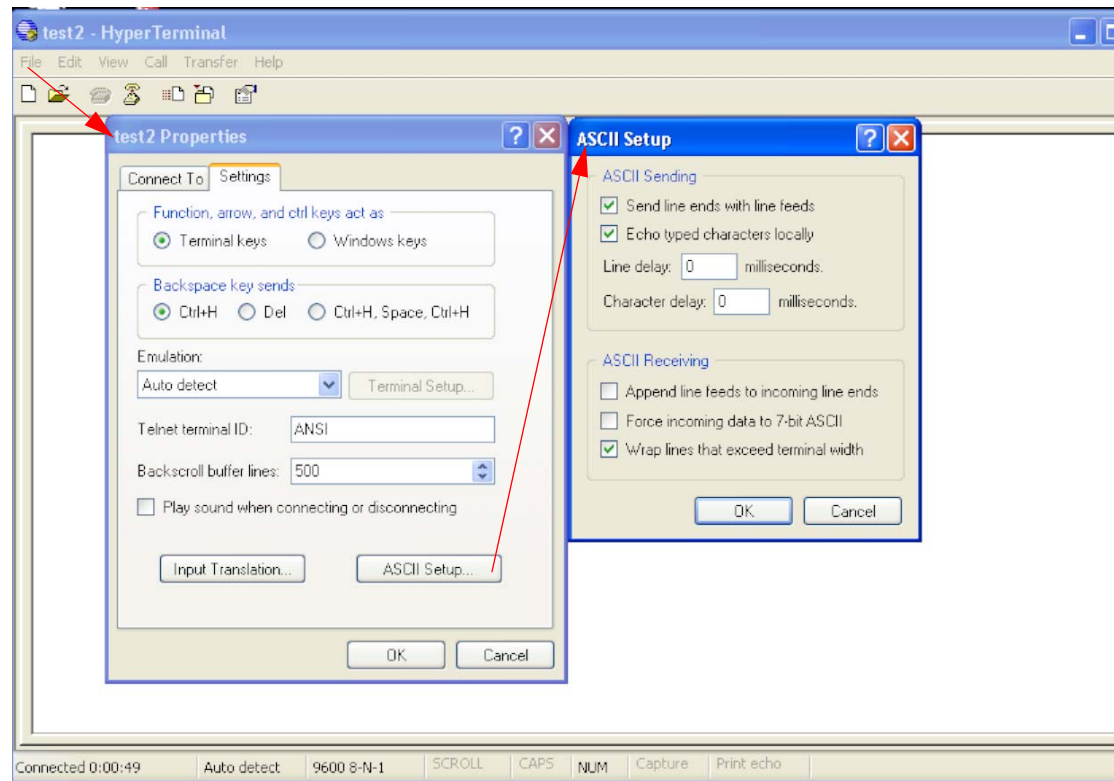

Figure B.5 ASCII Setup Window
9. From the menu bar, choose File → Properties → Settings. Click on the Settings tab, and then click ASCII Setup. See Figure B.5.